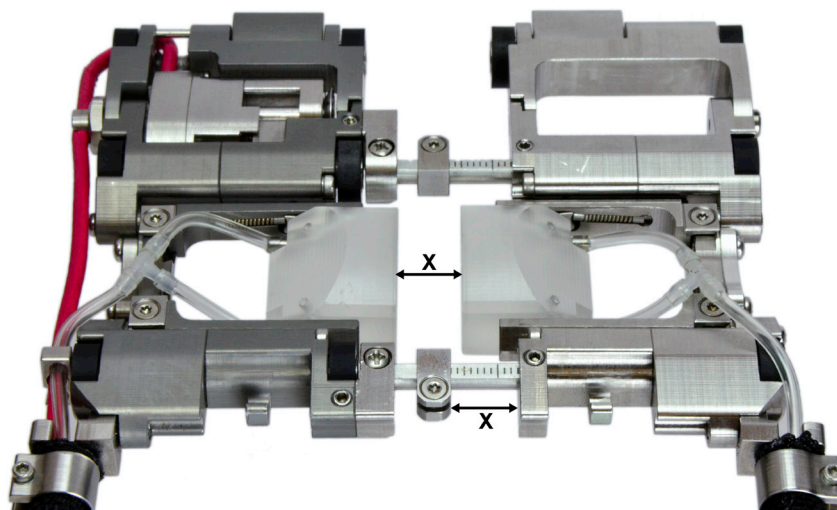

Figure 45 - Wedge Separation Indication
- i. Slide the chains apart till desired wedge separation is achieved. The number of graduations between the indicator and non-encoded side of the scanner is the probe separation in mm as shown in Figure 45.